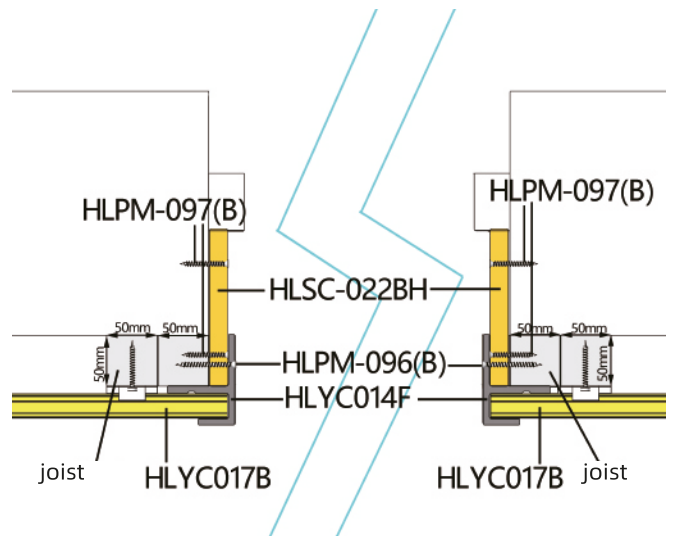

Fig20-4
5. Window and door section drawing. As shown in Figure 20-4 in horizontal section and 20-5 in vertical section: